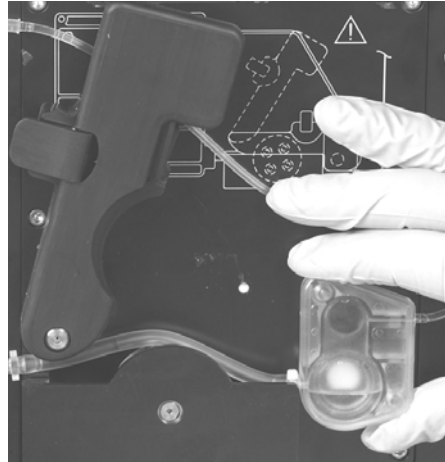

Figure 2-9. Positioning the Sensor Module
8). Align the Coolant Bag sensor module with the locating pins to the right of the pump mechanism (*Figure 2-9*).